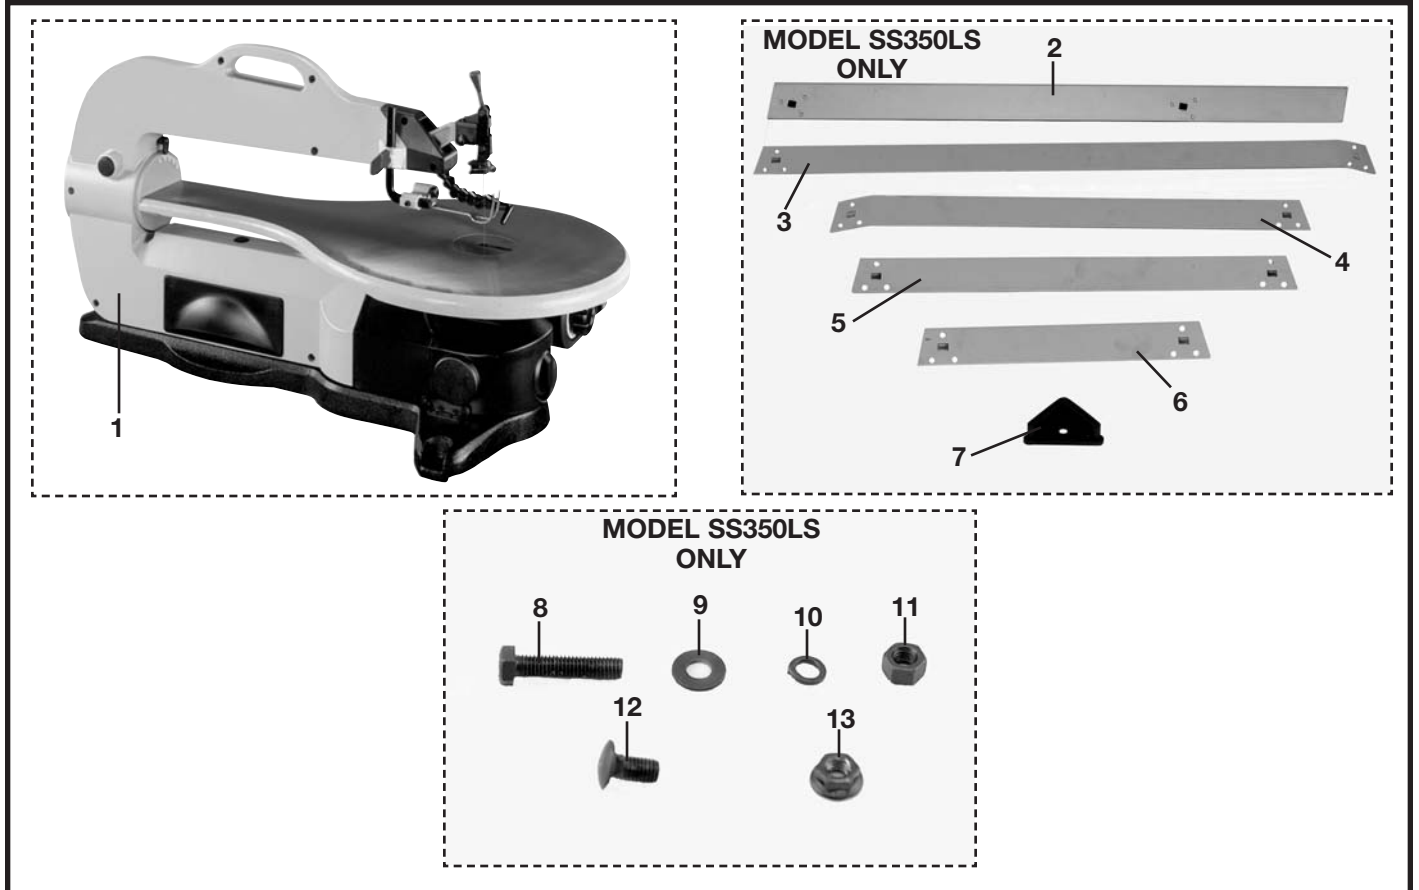
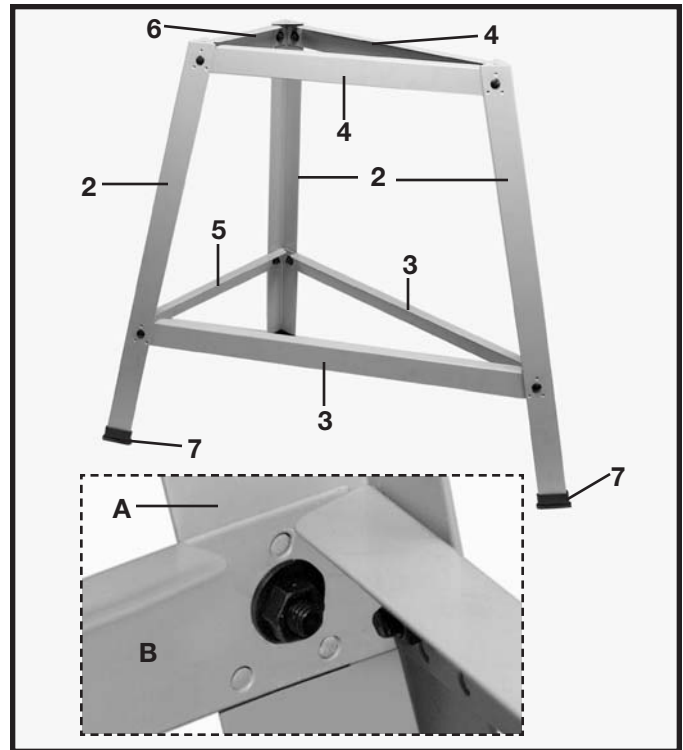

Fig. 1
Fig. 2
Assemble stand as shown in Fig. 2 using parts shown in Fig. 1. The braces, legs and feet are labeled the same in both illustrations. Insert the M8x1.25x16mm carriage head screws through legs and braces then secure with the M8x1.25 flange hex nuts. Loosely tighten hardware at this time.
**NOTE: MAKE SURE THAT THE DIMPLES ON THE LEGS (A) FIG. 2 ARE ENGAGED WITH THE HOLES ON THE BRACES (B).**